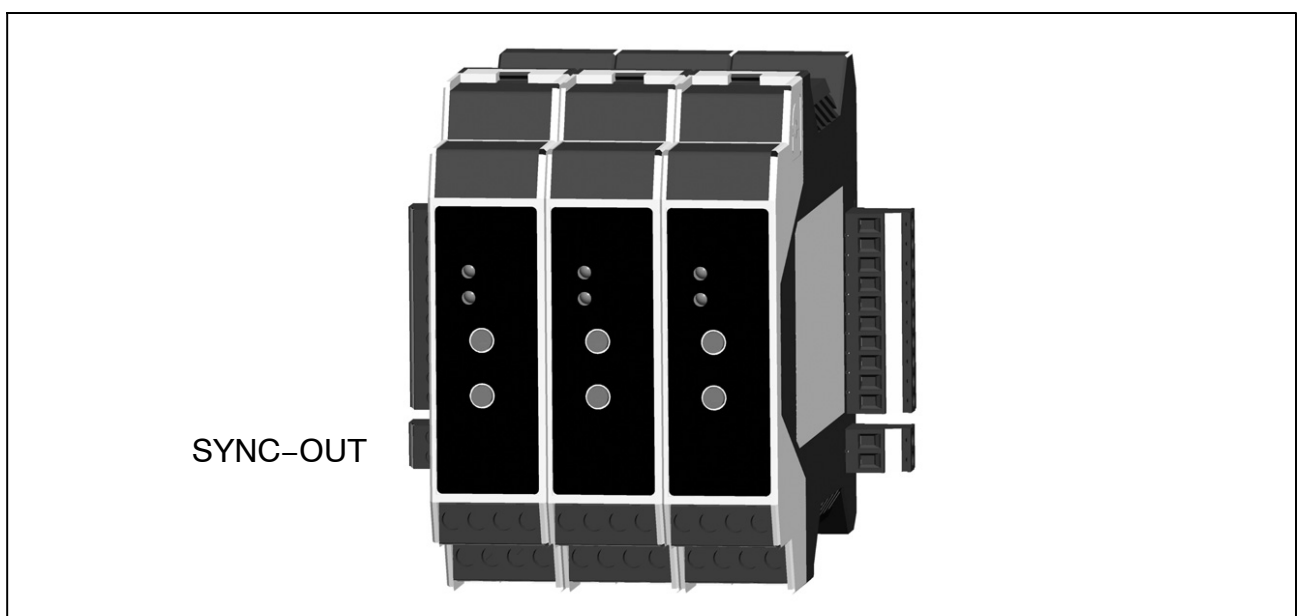
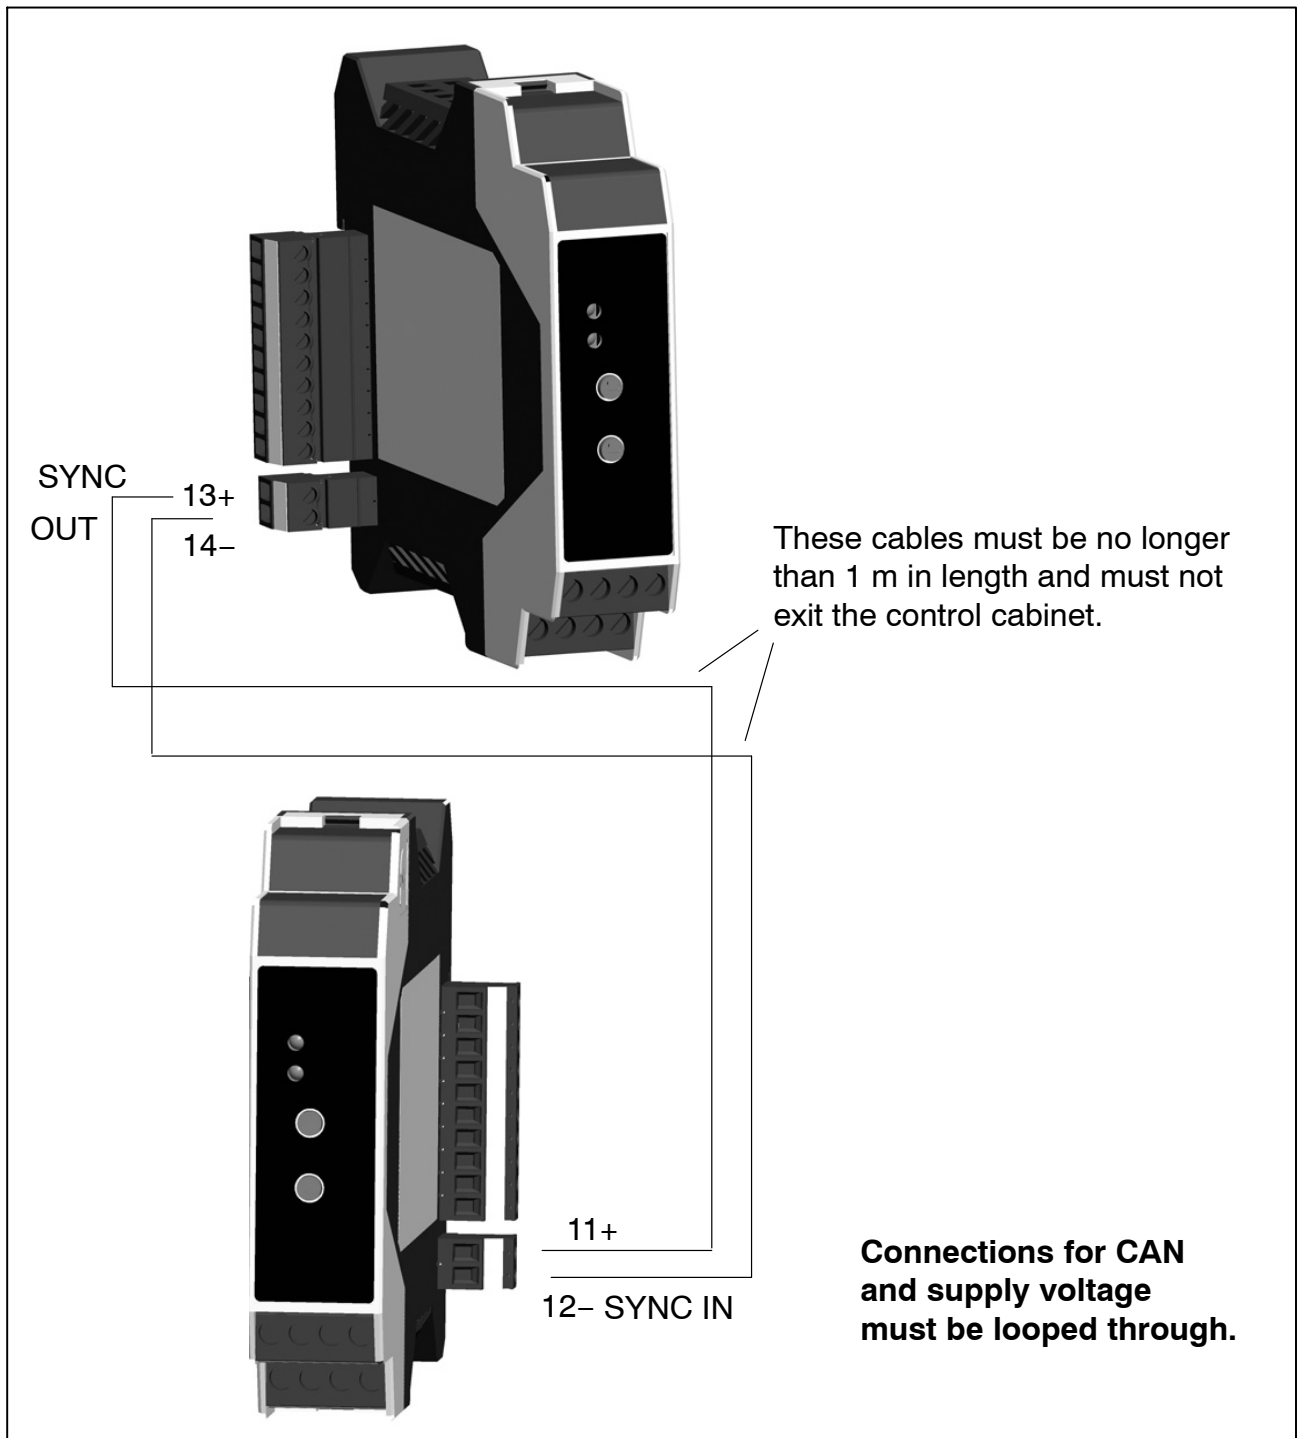

Fig. 3.4: Modules mounted side-by-side
Fig. 4.5: Mounting at several levels (here :DF30DN)
- When mounting at several levels: mate the SYNC-OUT connector to module 3 (see Fig. 3.4 and Fig. 4.5) and connect to SYNC-IN of the first module of the next level
The first device (starting from the right) is used as the master when synchronizing. All the subsequent modules are automatically set as slaves and work at the carrier frequency of the first module. Should the connection between the modules be interrupted, the first module after the interruption is automatically set as the master and synchronizes the subsequent modules. If the modules are divided among several rails, use the 2-pin synchronization connectors, 1-digiCLIP-ST; (see Fig. 4.5).